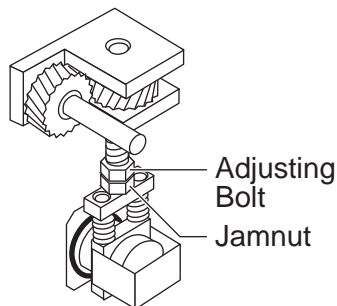

Figure 4-2: Adjusting the Nip
4. Loosen the jamnut on the nip adjusting bolt on each side of the laminator as shown in Figure 4-2.